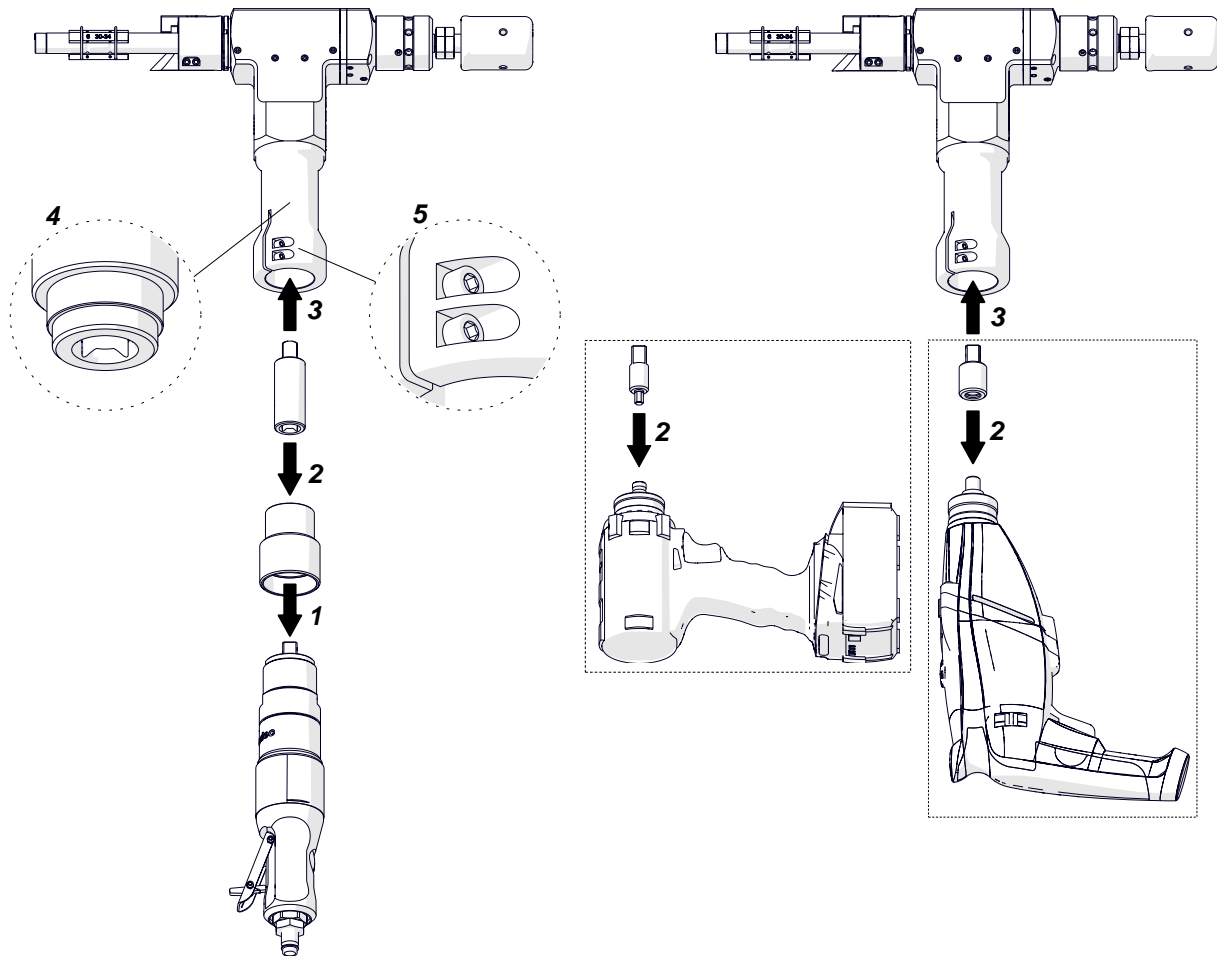

Fig. 5. Installing the air, electric, and battery motor
When using the air motor, attach the adapter (1, Fig. 5). Attach the correct driver to the motor (2). Put the motor into the machine (3) so that the driver is in the socket (4). Then, use the 4 mm hex wrench to tighten the screws (5).